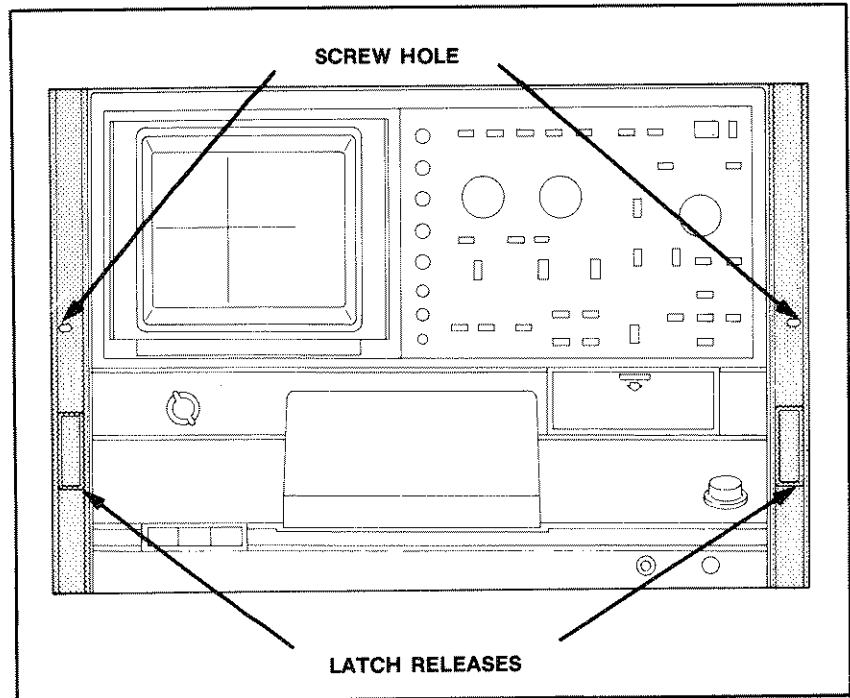

Figure 1-1. Location of the Rackmount Latch Release.
Latching. The 370 incorporates a spring-latch design built into the rackmounting ear. To release, pull the rackmount latch release (see Fig. 1-1). To relatch, push the rackmount latch release until the spring latches engage.
For those applications that require additional rackmounting security, the rackmounting ears of the 370 are drilled for screw fasteners (see Fig. 1-1).
6. Extend the instrument out of the rack by pulling the rackmount latch releases on the front panel (see Fig. 1-1) out to disengage the spring latches. Then, pull the instrument out.